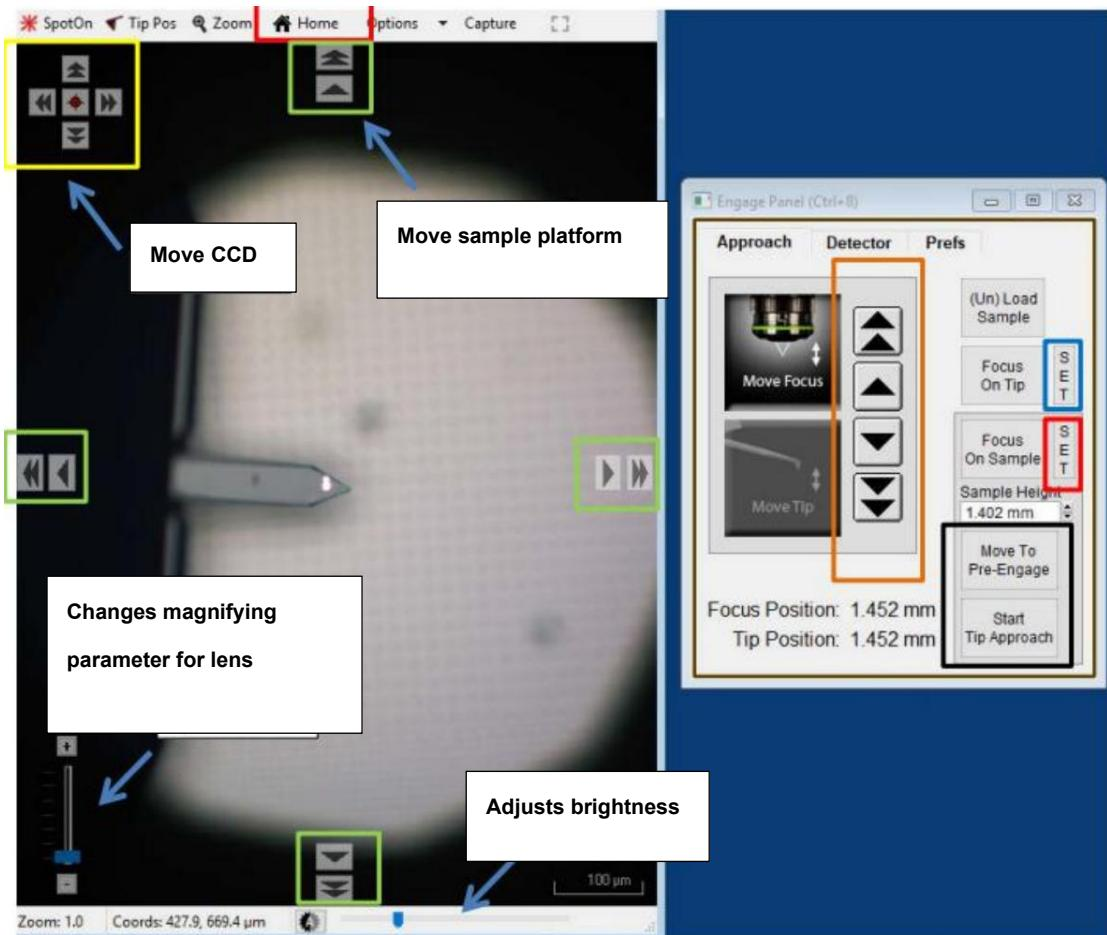

Figure 9
- 7) Click the "Move To Pre-Engage" button highlighted in Figure 9. This will position the probe 50 μm above the sample surface. Observe whether the laser spot has shifted and make fine adjustments to its position if necessary. **Warning:** If the previously set probe position and sample height are incorrect, this step is highly likely to cause the probe to crash into the sample, resulting in damage! Therefore, after setting the two focal planes, carefully check the settings to prevent probe damage, or worse, the holder colliding with the sample and causing more severe equipment damage!